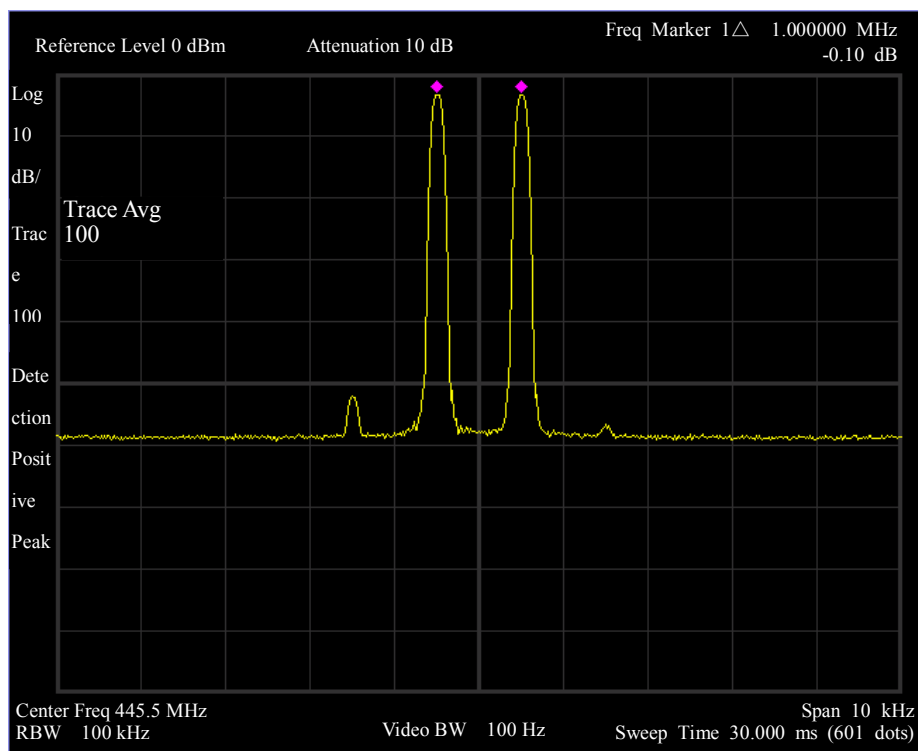

Fig. 3-22 Move Signals to the Center of Display of Spectrum Analyzer
(6) Press the [Freq] key;
(7) Move two signals to the center of screen with knob, as shown in Fig. 3-22.